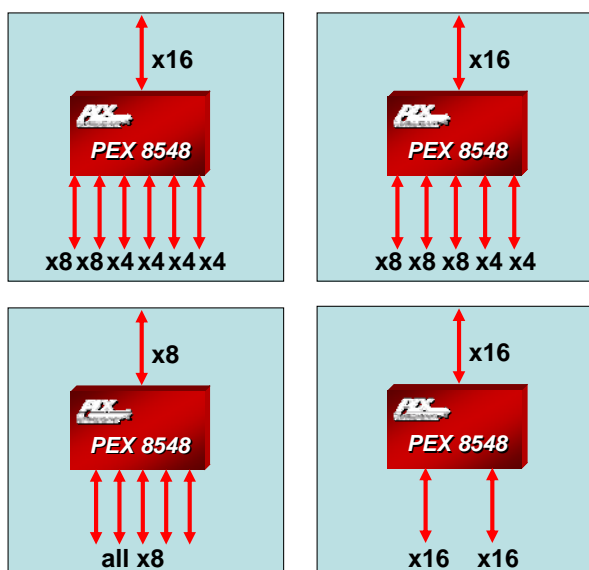

Figure 1. Common Port Configurations
The PEX 8548 supports a large number of port configurations (see Figure 1). For example, if you are using the PEX 8548 in a fan-out application, you may configure the upstream port as a x16 and the downstream as eight x4 ports; three x8 ports & two x4 ports; or various combinations, as long as you don't run out of lanes (48) or ports (9). For a dual-graphics application, the device can be configured as three x16 ports.